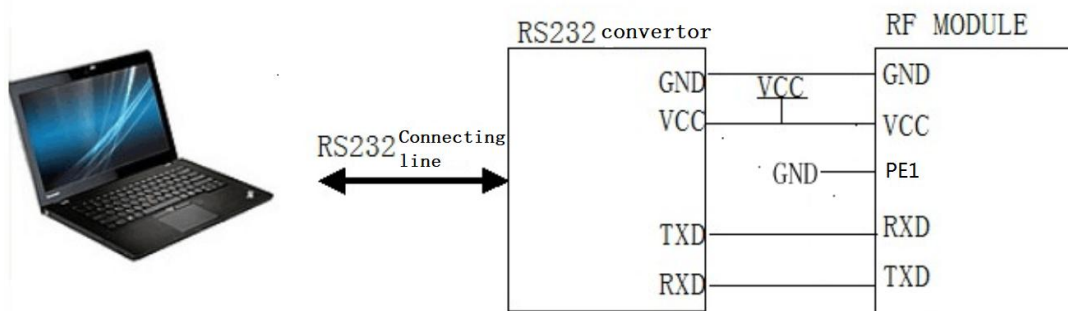

Figure 9.1 Wireless module and computer connection diagram (TTL)
- 2、Switch the computer serial port to the corresponding level and then connect the module,as shown in figure 9.1.